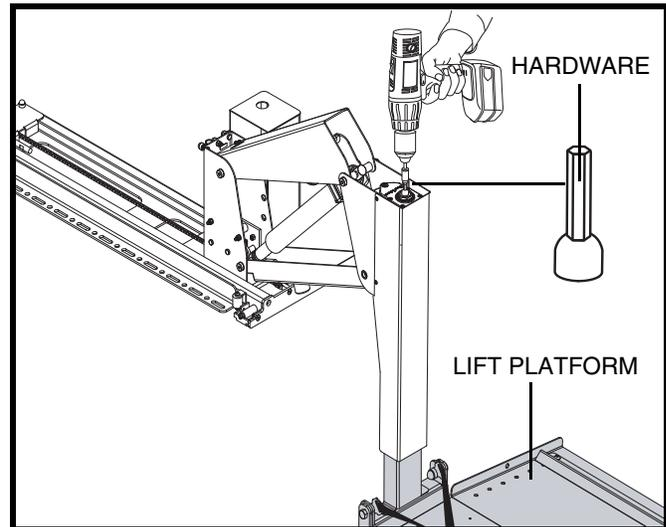
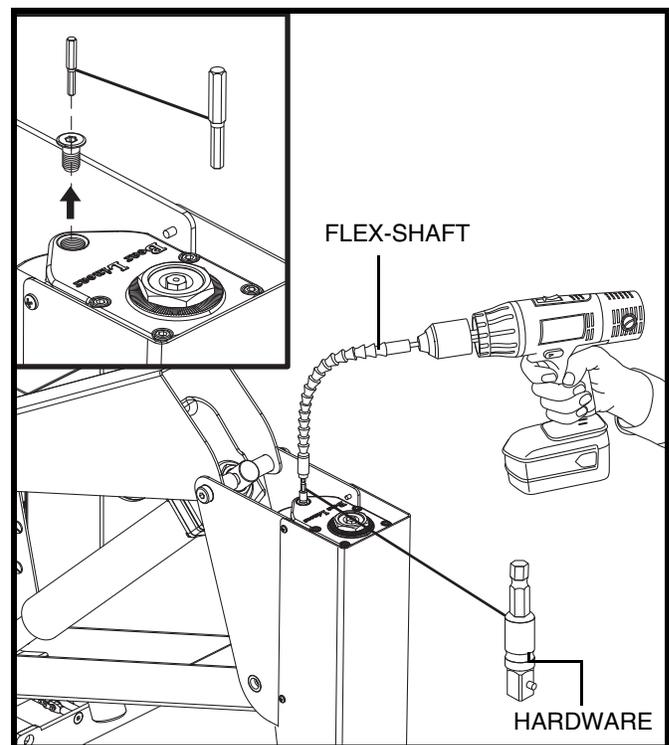

Figure 10. Raise Or Lower The Platform. DO NOT Use The Flex-Shaft For This Operation (Backpacker MV ONLY)
Figure 10A. Raise Or Lower The Platform (Remove Screw To Expose The Adjustment Opening) Backpacker MV ONLY
The Backpacker MV lift platform can be raised/lowered from two different adjustment points located at the top of the lift. The larger (front) adjustment opening (see **figure 10**) requires more energy but less revolutions to raise/lower the platform, while the smaller (rear) adjustment opening (see **figure 10A**) needs less energy but more revolutions.
NOTE: *Some MV lifts have only a single adjustment opening on the motor. See figure 10 B.*
PROHIBITED! DO NOT use the flex-shaft when manually raising or lowering the lift platform while using the method illustrated in figure 10. Attach the needed hardware directly to the drill.
1. Secure the appropriate end of the flex-shaft to a drill, and depending on which part of the lift you want to move, attach the appropriate hardware to the other end of the flex-shaft. See **figures 10, 10A, 10B, 11, and 12**.